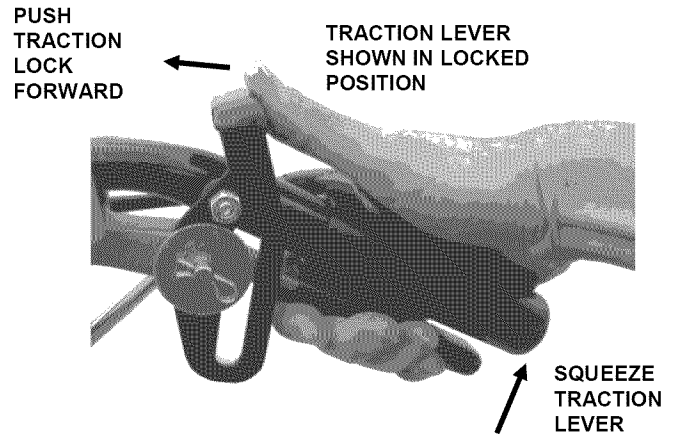

FIGURE 3.10
2. Lock Traction Levers by squeezing both Traction Levers against the handle grips while pushing right and left Traction Locks forward until **BOTH** Traction Levers are in the locked position. See Figure 3.10.